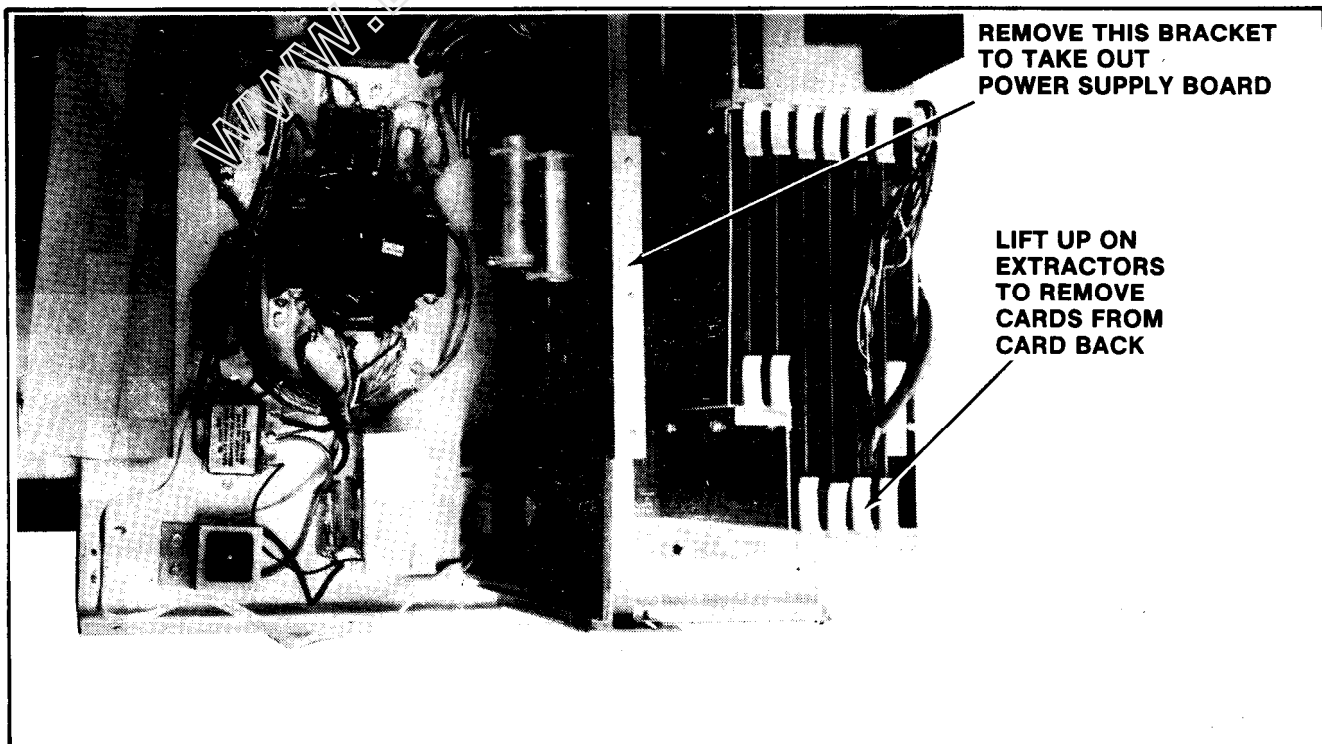

Figure 2-21 Removing Printed Circuit Boards - Upright
### 2.8.1 UPRIGHT MODEL: (See Figure 2-21) (Cont'd)
- ☐ Slide out the utility shelf. See Figure 2-21.
- ☐ To remove the power supply PCB for the commercial card rack. See Figure 2-21.